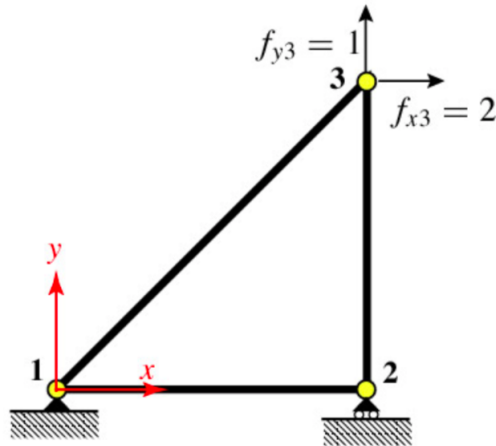

Figure 4: Structure to analyze.
The exercise to solve is the one shown in the Figure 4, but adding a node in the middle between nodes 1 and 3. The element between nodes 1 and 2 is the element (1), between nodes 2 and 3 is the element (2) and between nodes 1 and the one to add, we call it 4, is the element (3) and the element between nodes 4 and 3 will be the element (4).